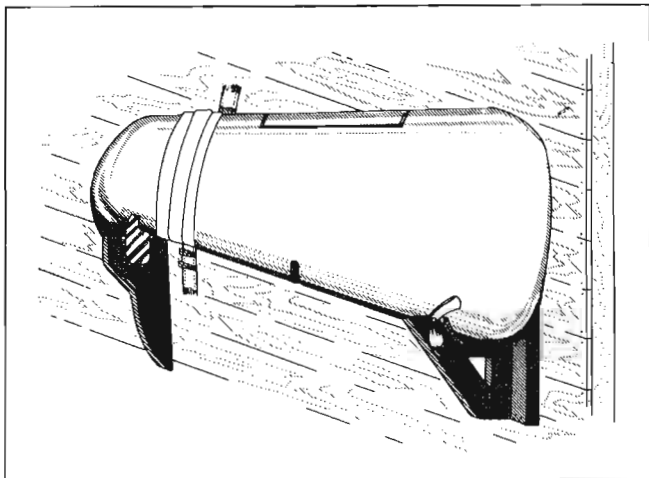

Figure 17 — Rudder Attached to Wall
- (n) Attach rudder to bracket on the front section of the left wall, securing by means of webbing. (See figure 17.)